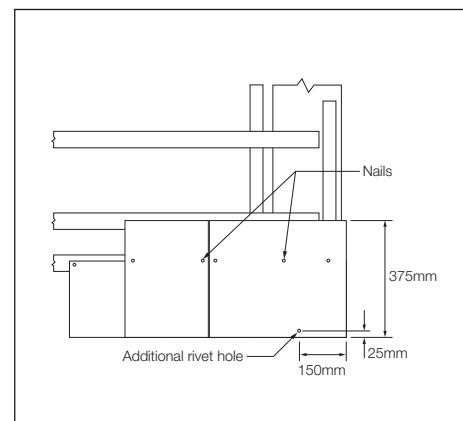

Fig. 9
- 3 Cut to size and drill 2 no. 4mm holes 20mm in from either edge for shoulder nailing the second under-eaves course of full width slates to the bottom batten. The slate-and-a-half widths laid at the verge require 2 additional drilled holes, 1 on the batten line for centre nailing and 1 drilled half a slate width in from verge and 25mm up, to allow for a copper disc rivet to fix the first full slate course (Fig. 9).